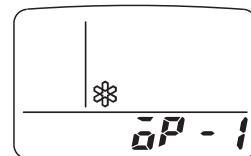

Fig. 10
- d)  $\ast$  appears and “oP-1” blinking in the remote controller clock display area. (Fig. 10)